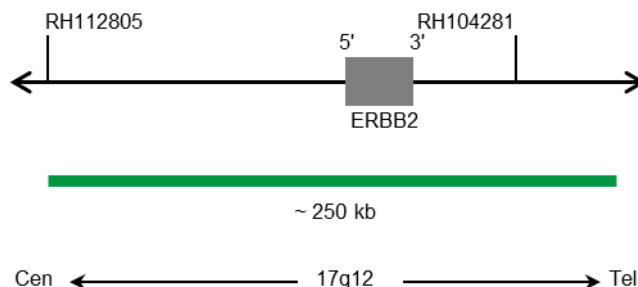

Fig. 1: SPEC ERBB2 Probe map (not to scale)
- Digoxigenin-labeled polynucleotides (~1.1 ng/ $\mu$ l), which target sequences mapping in 17q12\* (chr17:37,725,661-37,973,541) harboring the ERBB2 gene region (see Fig. 1).
- Dinitrophenyl-labeled polynucleotides (~1.1 ng/ $\mu$ l), which target sequences mapping in 17p11.1-q11.1 specific for the alpha satellite centromeric region D17Z1 of chromosome 17. (see Fig. 1).